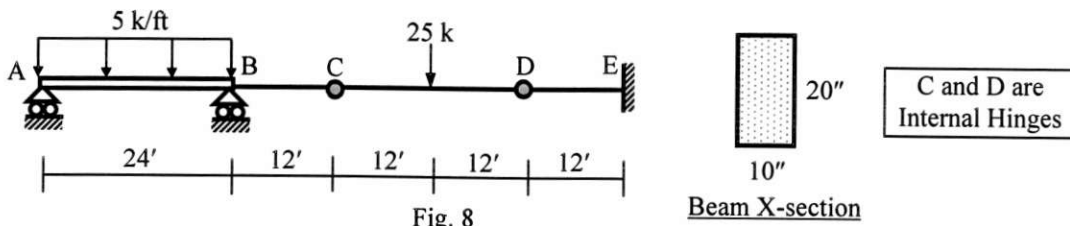

Fig. 8
- Use bending moment diagram of beam ABCDE shown in Fig. 8 to calculate M_p (and corresponding f_y) needed to prevent formation of plastic hinge mechanism [Given: $M_{p(AB)} = 2M_{p(BCDE)} = M_p$].